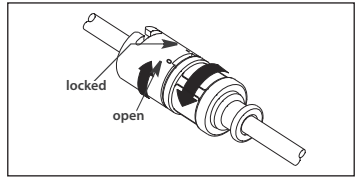

Figure 3
- b. If using a catheter contamination shield with TwistLock™ adapter (where provided), ensure double TwistLock™ of catheter contamination shield is fully opened (refer to Figure 3).